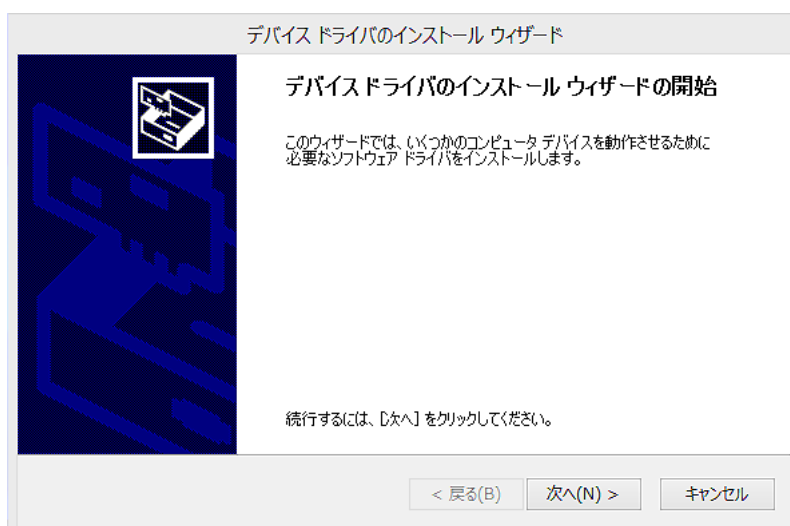

Fig. 9: Install Wizard
- (3) Select [Extract] and Fig. 9. Install Wizard screen is shown.